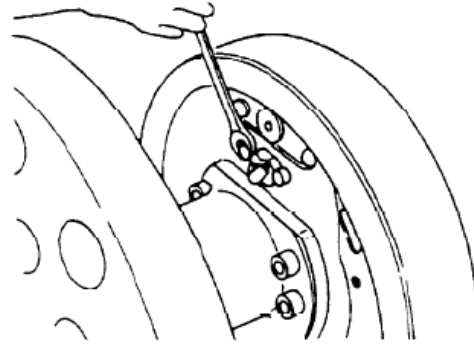

Fig. 2-14
(5) Remove the brake line from the brake cylinder. Remove brake cylinder mounting bolts and detach the brake cylinder from the backing plate. (See Fig. 2-14)